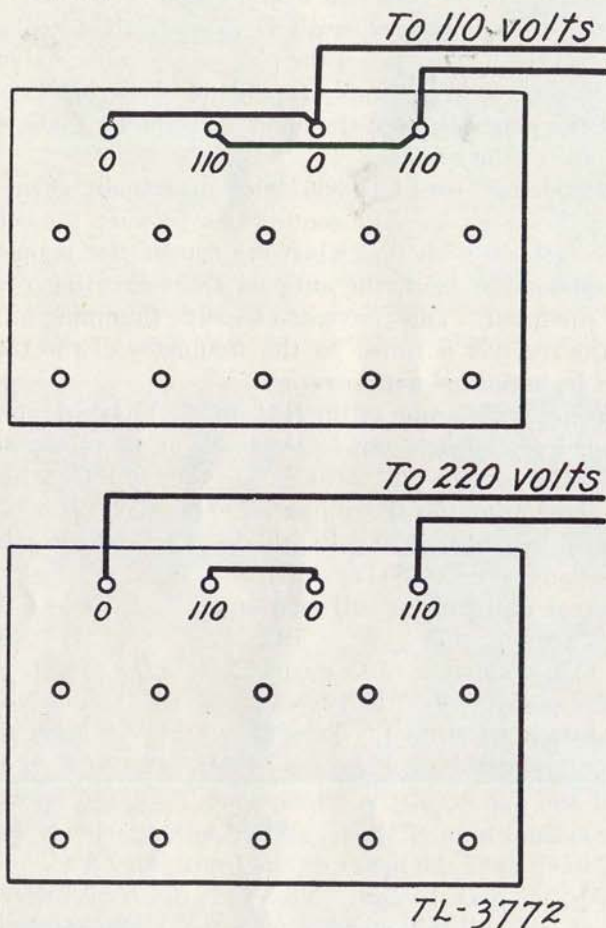

FIGURE 13.—Power transformer primary hook-up for control unit RM-13-( ).
*g.* The power transformer of the RM-13-( ) has a double primary with all four leads brought out to terminals on the under side of the chassis. In the control unit as it is normally supplied for 110-volt operation, these primaries are connected in parallel. If it is necessary to use this equipment on 220 volts, the leads must be unsoldered and new connections made. (See fig. 13.)